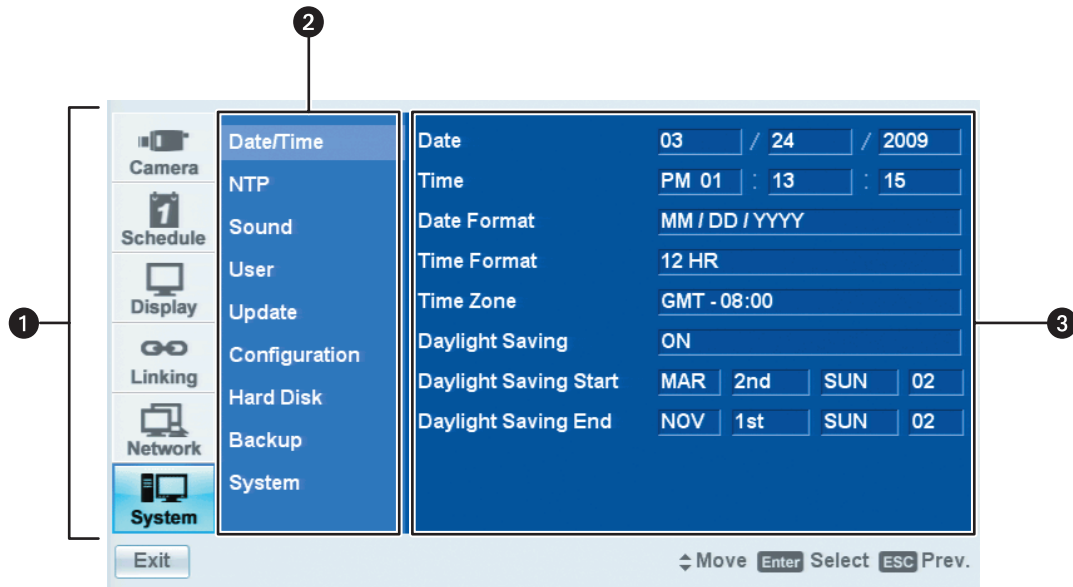

Figure 11. Setup Window Panes
2. On the front panel, press the MENU/ESC button or press the MENU/ESC button  on the remote control. Using the mouse, click the Setup icon . By default, the Setup window opens and the Camera menu is selected. Figure 11 describes how the Setup window is organized and explains how to navigate the Menu, Option, and Properties panes to change settings.